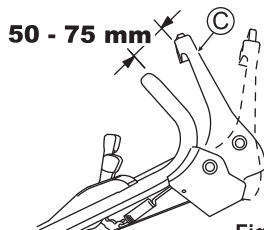

Fig. 25
Adjust so that the blade starts rotating when the distance between the blade lever (C) and the handle is 50 - 75 mm with the yellow button pressed as shown in Fig. 25.